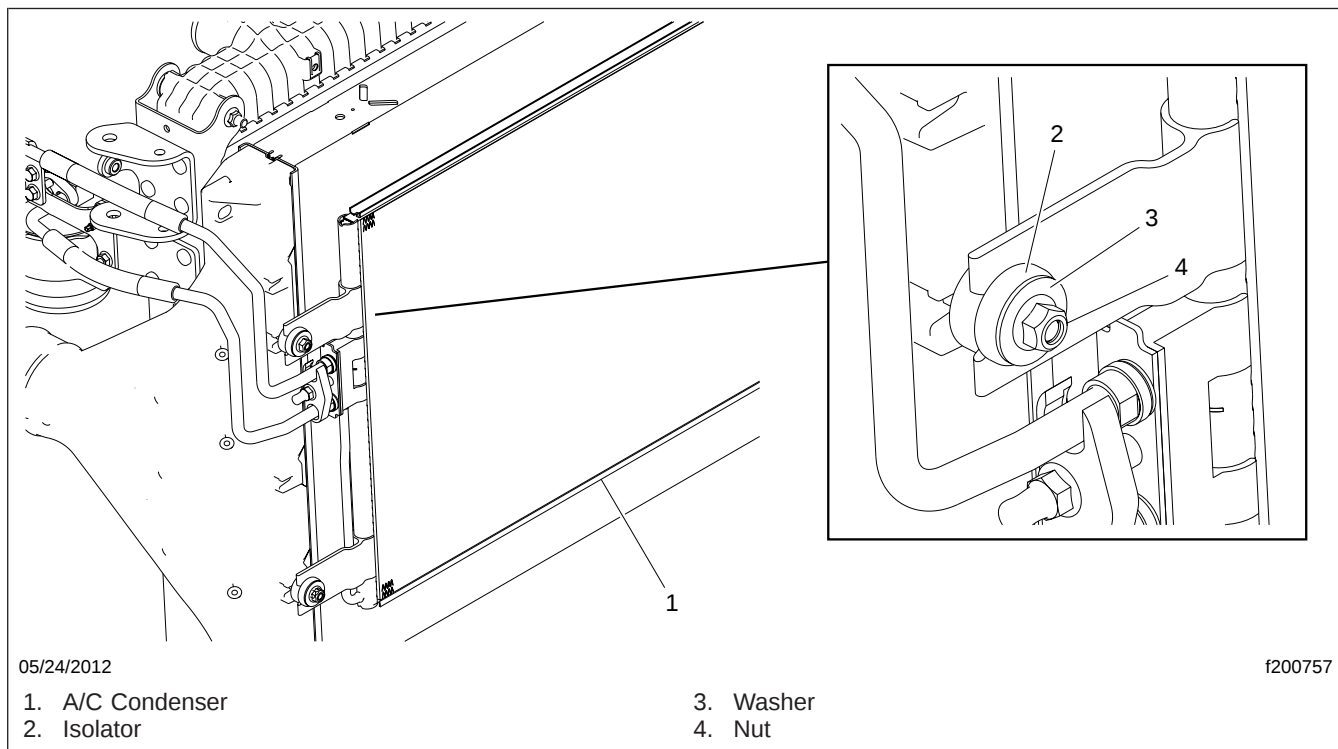

Fig. 4, A/C Condenser Installation
- 13.3 Unbolt the A/C condenser from the CAC. See Fig. 4.
- 37.1 Move the condenser into position and secure it temporarily. See Fig. 4.